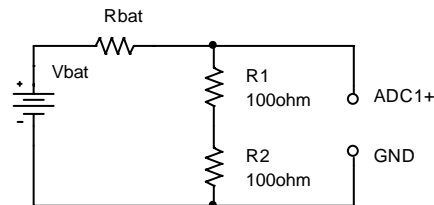

Figure B-5
- Now add a load to the battery, as in figure B-5. The load is two 100 Ω resistors in series. We will discuss why two resistors a little later. Set up the circuit so that you can add and remove the load quickly. This just means wire it so that it is easy to pull out and reinstall one end of one resistor. Record the V_{mean} from the measurements window of the IOBoard with the resistive load disconnected. Then connect the resistors and quickly record the new voltage. You may want to repeat this a few times to find the typical change of voltage with and without the load. Remember to record the unloaded battery voltage as well as the change in voltage.